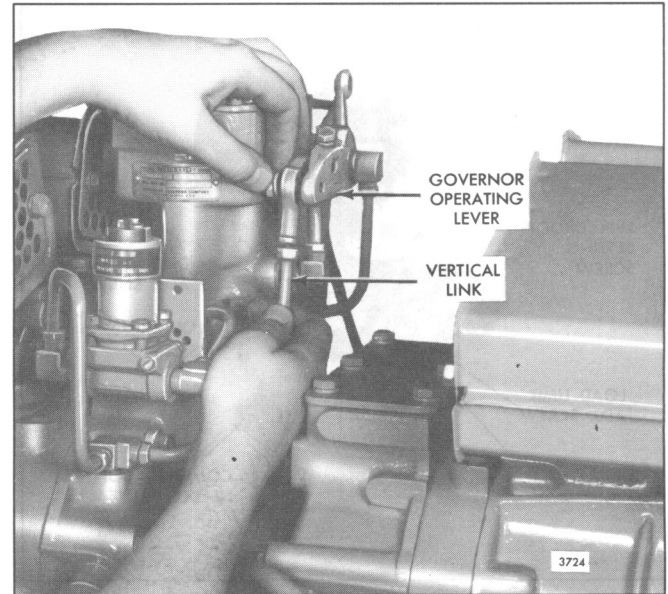

Fig. 7 – Adjusting Vertical Link
15. Adjust the length of the vertical link so that the bolt holes of the levers and the centers of the rod end bearings are lined up (Fig. 7).